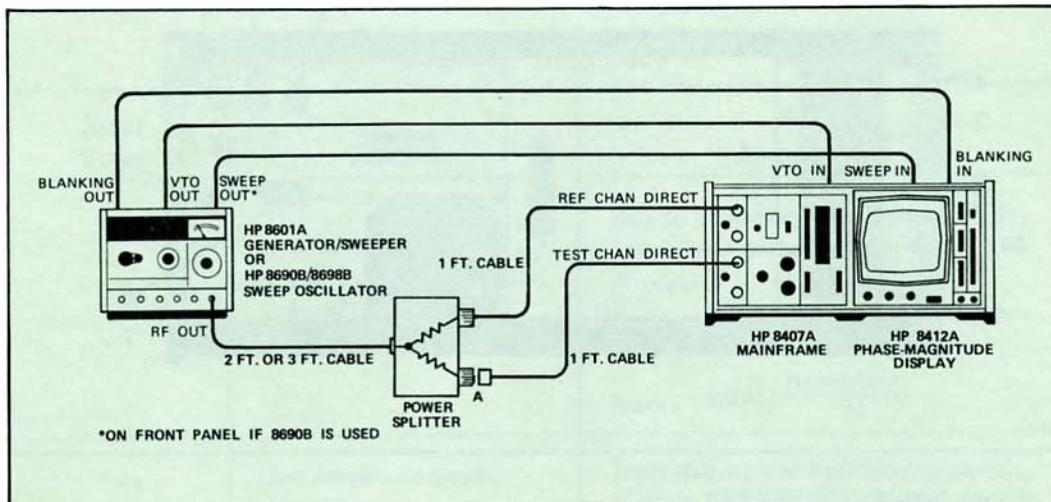
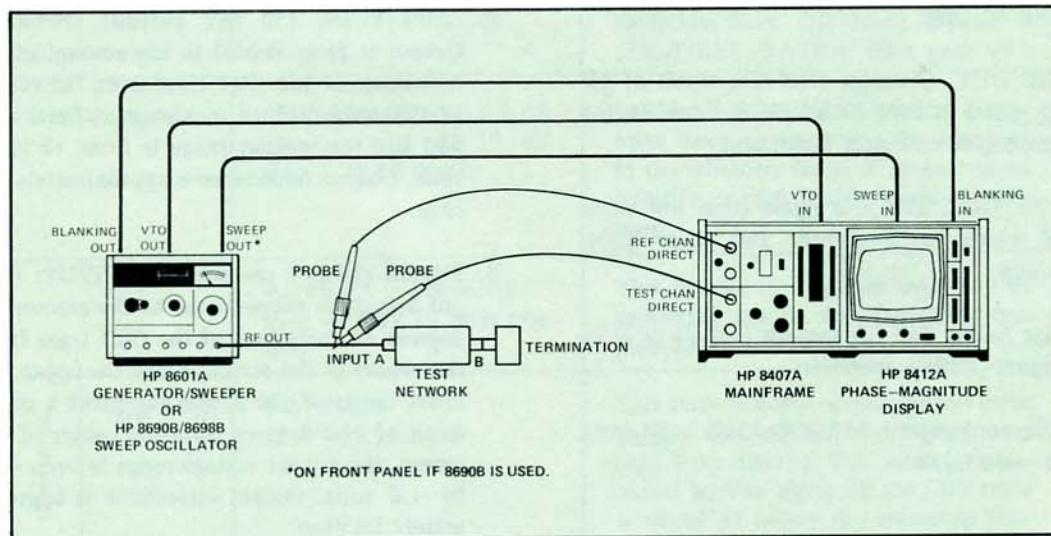

Figure 5-1. Setup for Making Transmission Measurements.
Figure 5-2. Transmission setup if 11654A Probe Kit is used. After calibrating the system, the test probe is moved to point B to make the measurements.
1. SET-UP. Set up the equipment as in Figures 5-1 or 5-2.
3. TEST. Insert your test device at point A in Figure 5-1 and read your value of attenuation or gain.
1. 11652A (Figure 5-1).
### 11654A (Figure 5-2).
If you're using the probes from the 11654A Passive Probe Kit, your initial setup will be as shown in Figure 5-2.
Insert the test device at point A in Figure 5-1. (For a probe measurement, move the probe connected to TEST input to point B in Figure 5-2.)